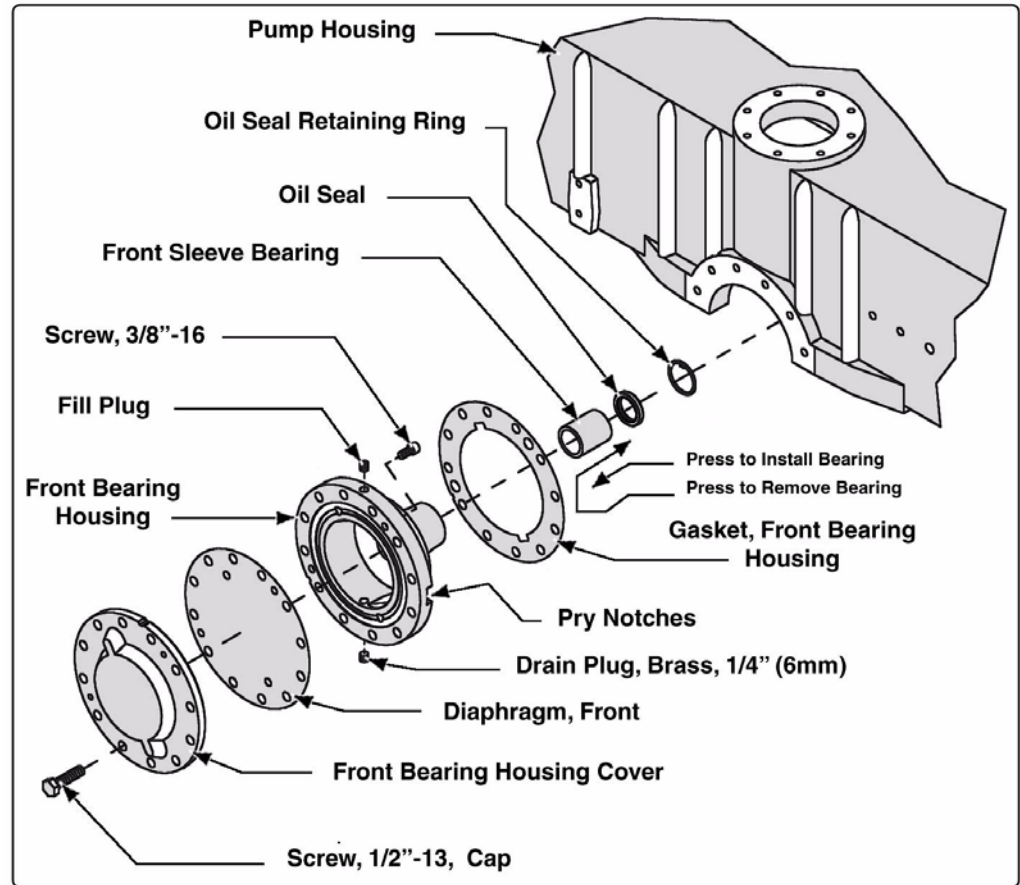

Figure 7-6: AutoLube Assembly Overview
2. Remove the fill and drain plugs from the AutoLube reservoir and drain oil. (See Figure 7-6: “AutoLube Assembly Overview,” on page 117.)
3. Have clean disposable shop rags and oil dry handy and a suitable container to collect the fluid - approximately one (1) quart (0.9 liters).
10. To replace the front sleeve bearing, a press must be used. Also see Figure 7-6: "AutoLube Assembly Overview."
13. Install a new oil seal, then install the seal retaining ring. (See Figure 7-6: "AutoLube Assembly Overview," on page 117.)
15. Line up the center-punch marks and install the housing cover. Apply Loctite #242 to the two (2) 3/8-16 UNC screws. Tighten and torque to 26 ft.-lbs. (35 N-m).
3. Match mark the lower pump body, Autolube housing, and rear bearing housing for easy and accurate reassembly. (See Figure 7-6: “AutoLube Assembly Overview,” on page 117.)